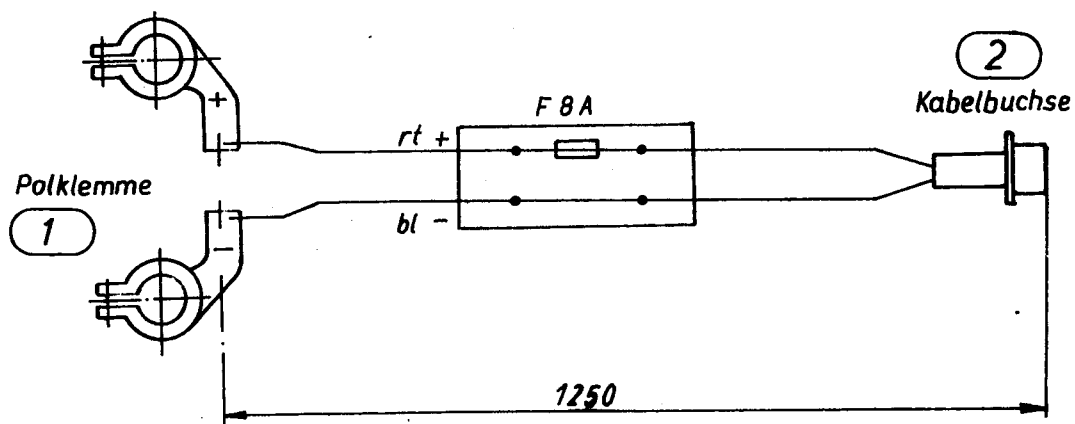

Figure 5
The connection is established with the battery connection cable 1414.006-01001 (cf. Figure 5) contained in the accessories to the battery connection plug — (26). If a longer feeder line is required, the cable is to be replaced after the fuse link (cross-section  $\cong 2.5 \text{ mm}^2 \text{ Cu}$ ). Access to the fuse link is to be guaranteed. The battery can be earthed at one side. When the positive pole is earthed, the fuse link is to be switched over to the negative line by reconnecting the cable. In case of incorrect polarity the fuse link is destroyed. During battery operation overvoltages up to 16 V or 32 V are permitted for a short time ( $t \cong 5 \text{ min.}$ ). Floating operation is possible up to these limits. When higher voltages are present, a protective circuit places the unit out of operation.